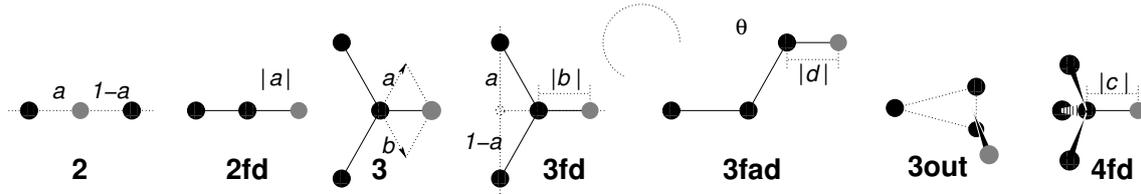

Fig. 5.33: The seven different types of virtual site construction. The constructing atoms are shown as black circles, the virtual sites in gray.
computation involved increases sharply along this list, so we strongly recommended using the first adequate virtual site type that will be sufficient for a certain purpose. Fig. 5.33 depicts 6 of the available virtual site constructions. The conceptually simplest construction types are linear combinations:
- As a linear combination of two atoms (Fig. 5.33 2):
- On the line through two atoms, with a fixed distance (Fig. 5.33 2fd):
- As a linear combination of three atoms (Fig. 5.33 3):
- In the plane of three atoms, with a fixed distance (Fig. 5.33 3fd):
- In the plane of three atoms, with a fixed angle and distance (Fig. 5.33 3fad):
- As a non-linear combination of three atoms, out of plane (Fig. 5.33 3out):